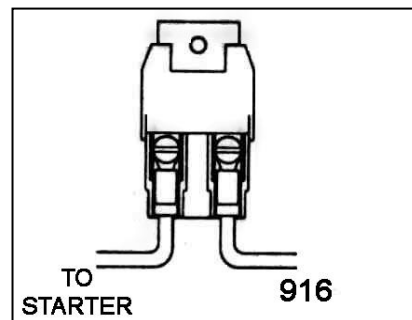

Figure 7-3 Maxi Fuse
7.3.1 With crimping tool, attach Maxi Fuse (**Figure 7-3**) onto end of ENGINE SECTION (single) 10 ga. wire #916 (red) AFTER having routed wire from the Fuse Panel to the Starter Solenoid. This serves as a fuse to protect the entire harness. DO NOT OMIT IT!
- 8.2.1** With crimping tool, attach the Maxi Fuse (**Figure 7-3**) onto end of ENGINE SECTION (single) 10 ga. wire #916 (red) AFTER having routed wire (with or without ammeter) from the Fuse Panel to the Starter Relay. This serves as a fuse to protect the entire harness. **DO NOT OMIT IT!**